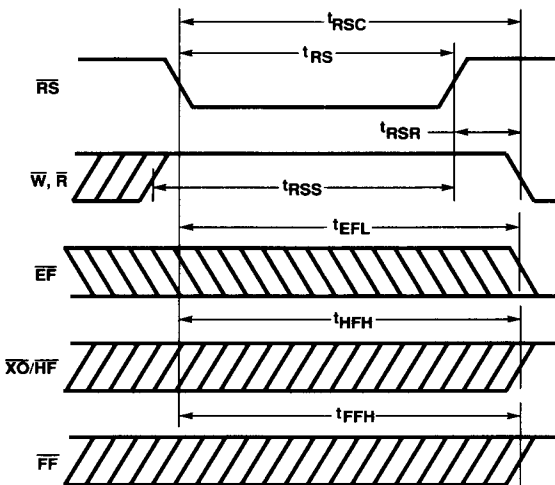

Figure 2. Reset Timing
Upon power up, the FIFO must be initialized with a Reset cycle. (See Figure 2.) The states of XI and FL are used during the reset cycle to determine the FIFO's mode of operation, as shown in Tables 1 and 2. For a valid reset cycle to occur, both the Read (\bar{R}) and Write (\bar{W}) signals must be HIGH t_{RSS} prior to and t_{RSR} after the rising edge of Reset (\bar{RS}). The reset cycle initializes the FIFO to an empty condition, signified by the Empty Flag (EF) being LOW, active, and both the Half-Full (\bar{HF}) and Full Flag (FF) being HIGH, inactive.